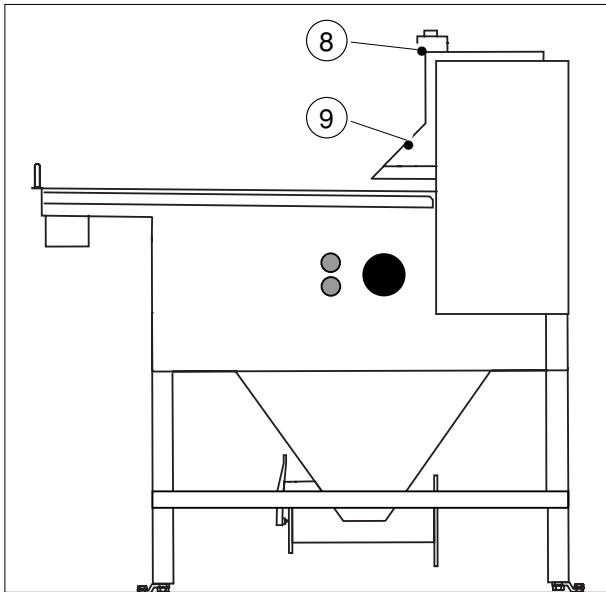

fig.14.1 Safety stop button, stop knob, start knob and protection cover
- Safety switch **8** is operated when opening protection cover **9**. The inspection/peeling table immediately stops and all electrical drives to the peeling rolls are switched off. See figure 14.1.